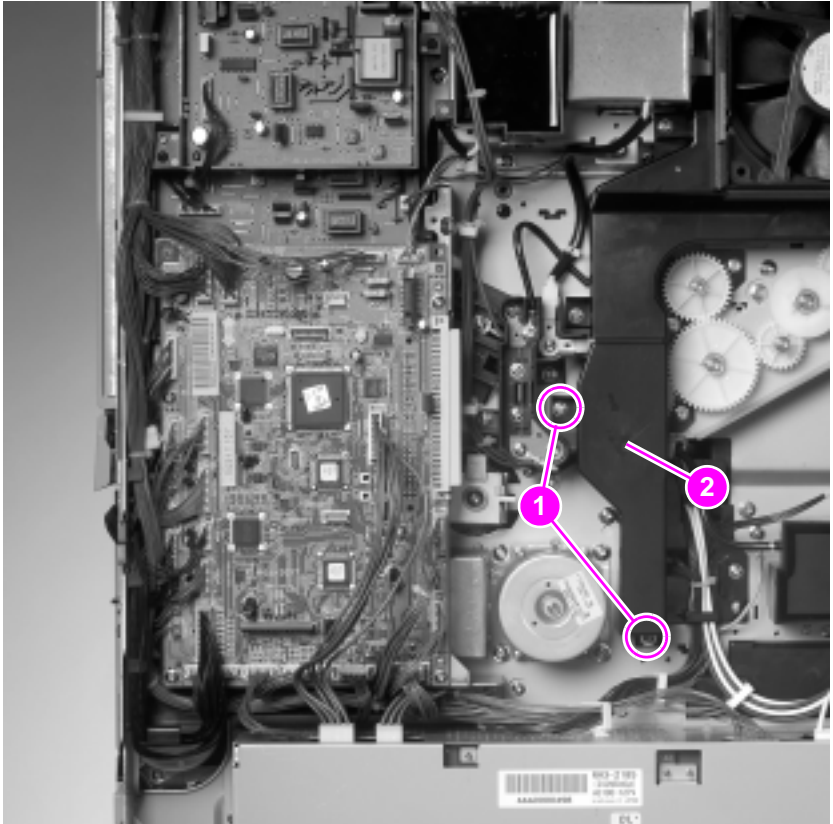

Figure 129. Lower air duct
- 6 Remove the lower air duct (see figure 129 on page 259).